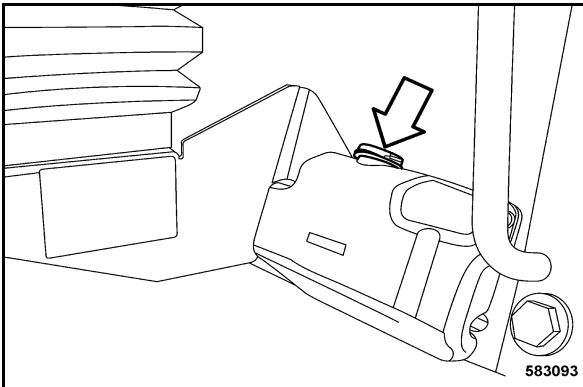

Fig. 194
- Check the fluid level in the tank (Fig. 194), top up if necessary.